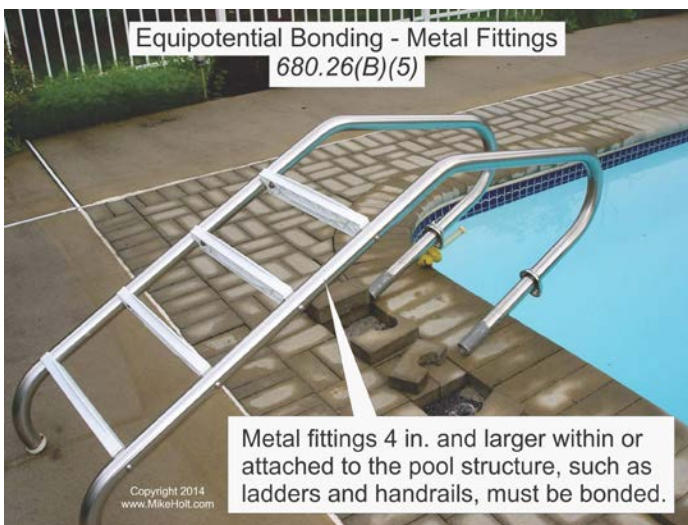

Figure 680-44
(4) Underwater Metal Forming Shells. Metal forming shells and mounting brackets for no-niche luminaires and speakers must be bonded to the equipotential grid.
(5) Metal Fittings. Metal fittings 4 in. and larger located within or attached to the pool structure, such as ladders and handrails must be bonded to the equipotential grid. Figure 680-44